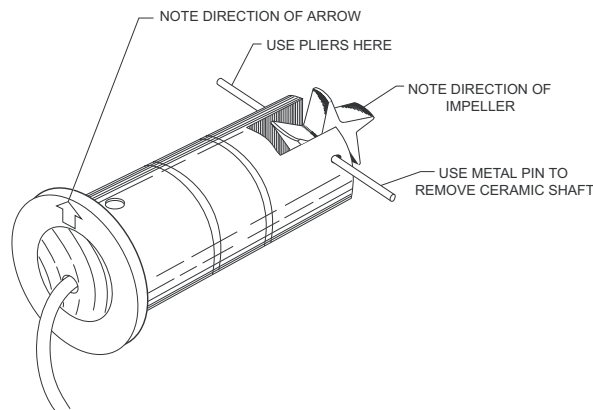

Figure 1: Impeller assembly
6. Refer to Figure 1. To reinstall, position the impeller in the cavity as described in the **NOTE** above so that the impeller blades point into the flow direction and toward the small alignment hole located next to one of the sight holes on the metal sensors. For the 250BR, the flow direction arrow on the top of the sensor housing should point downstream with the impeller blades pointing upstream.